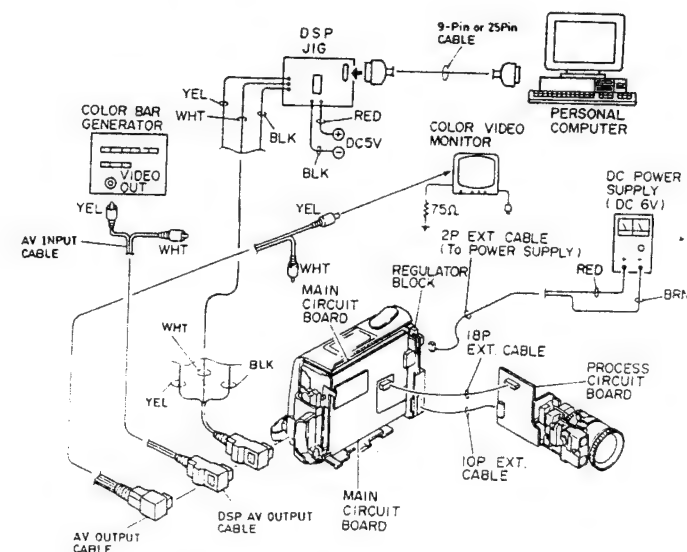

Fig. 4-1
Remove the components, etc. listed below first, referring to CHAPTER 2 DISASSEMBLY. (See Fig. 4-1)
- 3) Connect this unit, a power supply and a colour video monitor as shown in Fig. 4-1.